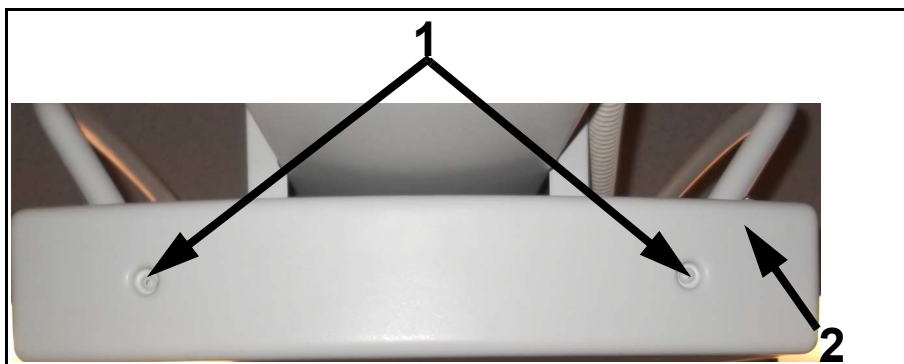

Figure 5-4. Bottom Cover Screws
- 3 Unscrew the two bottom cover screws (1 in Figure 5-4) and the remove bottom cover (2).